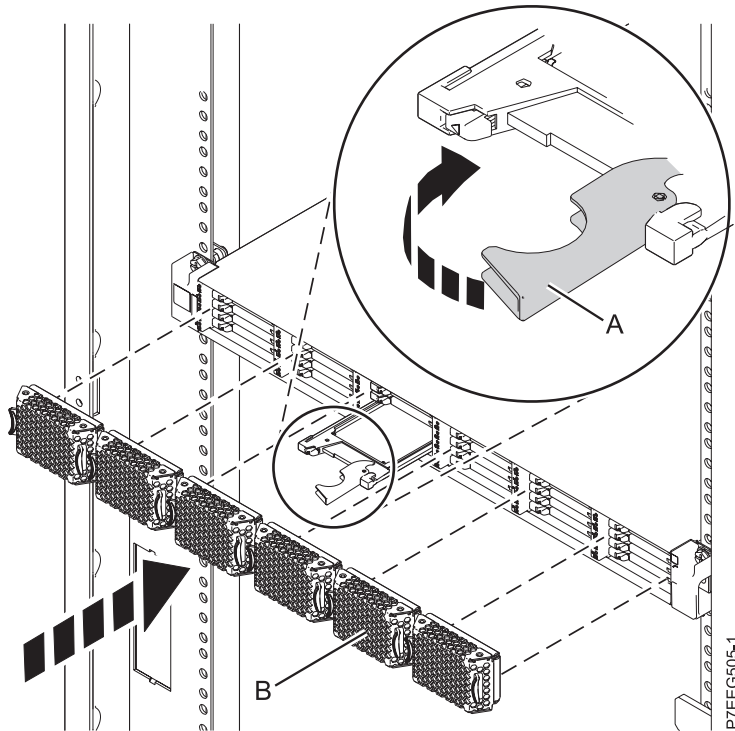

Figure 8. Installing a solid-state drive in the 58/88 PCIe storage enclosure
1. With the handle in the unlocked position, align the solid-state drive with the guide rails in the enclosure. See Figure 8 on page 16.
5. Rotate the handle (A) to the locked position.
6. Install the bezel (B).